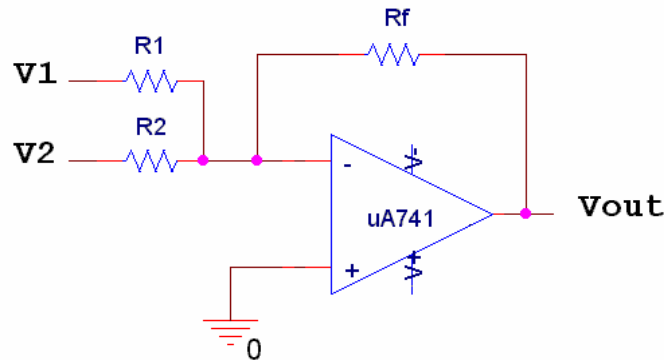

Figure D-1
*Op-Amp Adders:* Figure D-1 below shows an *adder*. Its behavior is governed by the following equation: